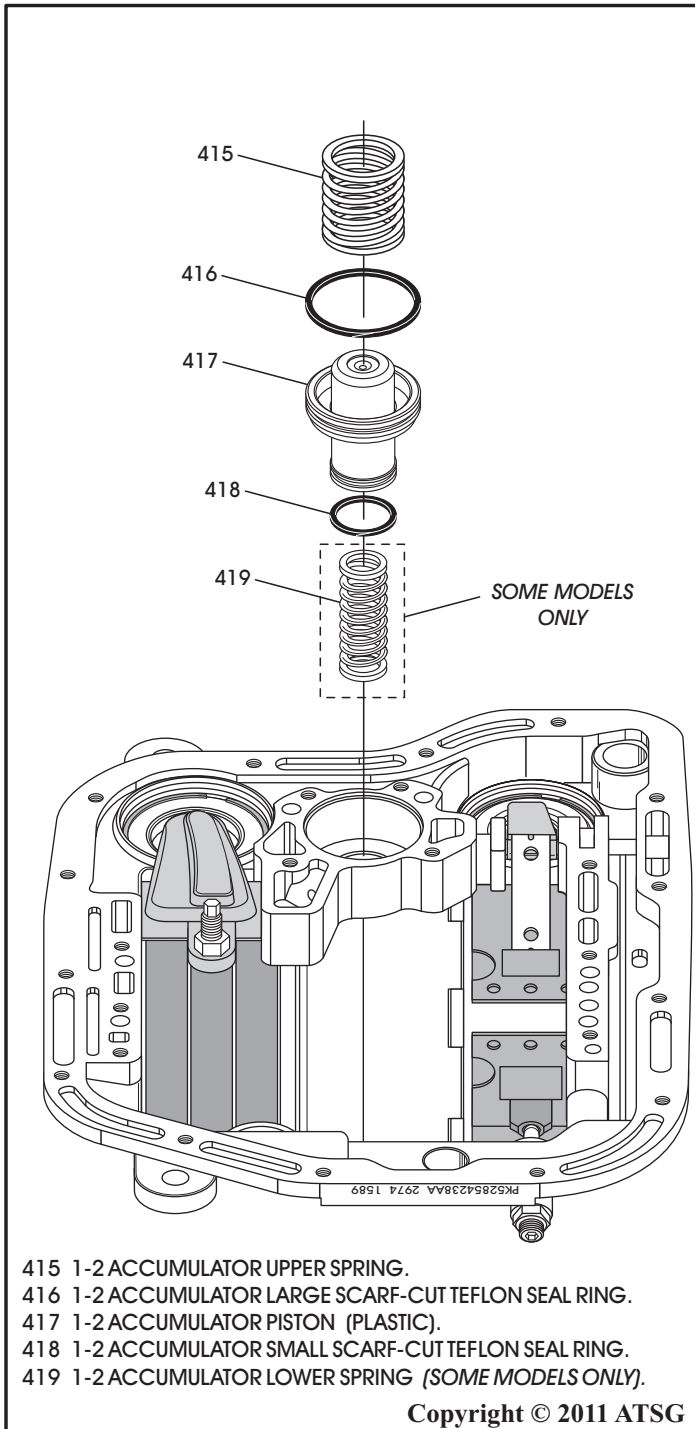

Figure 72
28. Remove the 1-2 accumulator assembly from the case, as shown in Figure 72.
*Note: Spring below the accumulator piston is not used on all models (See Figure 72).*
29. Remove and discard the two scarf-cut Teflon seal rings, as shown in Figure 72.